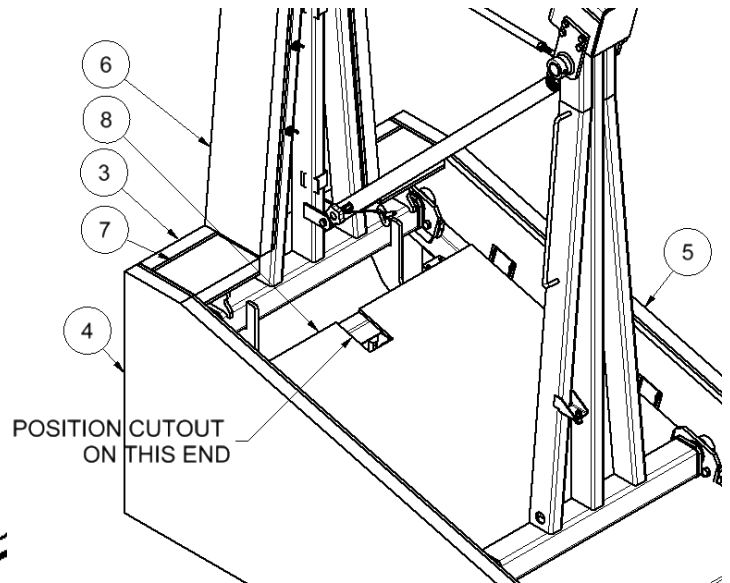

Figure 17
39. Install the Upright pad (item 6) to the front upright using the Velcro straps. Refer to figure 17 & 18.
40. Install the Center unit cover (item 8) with the cutout on the front end as shown. Refer to figure 17.